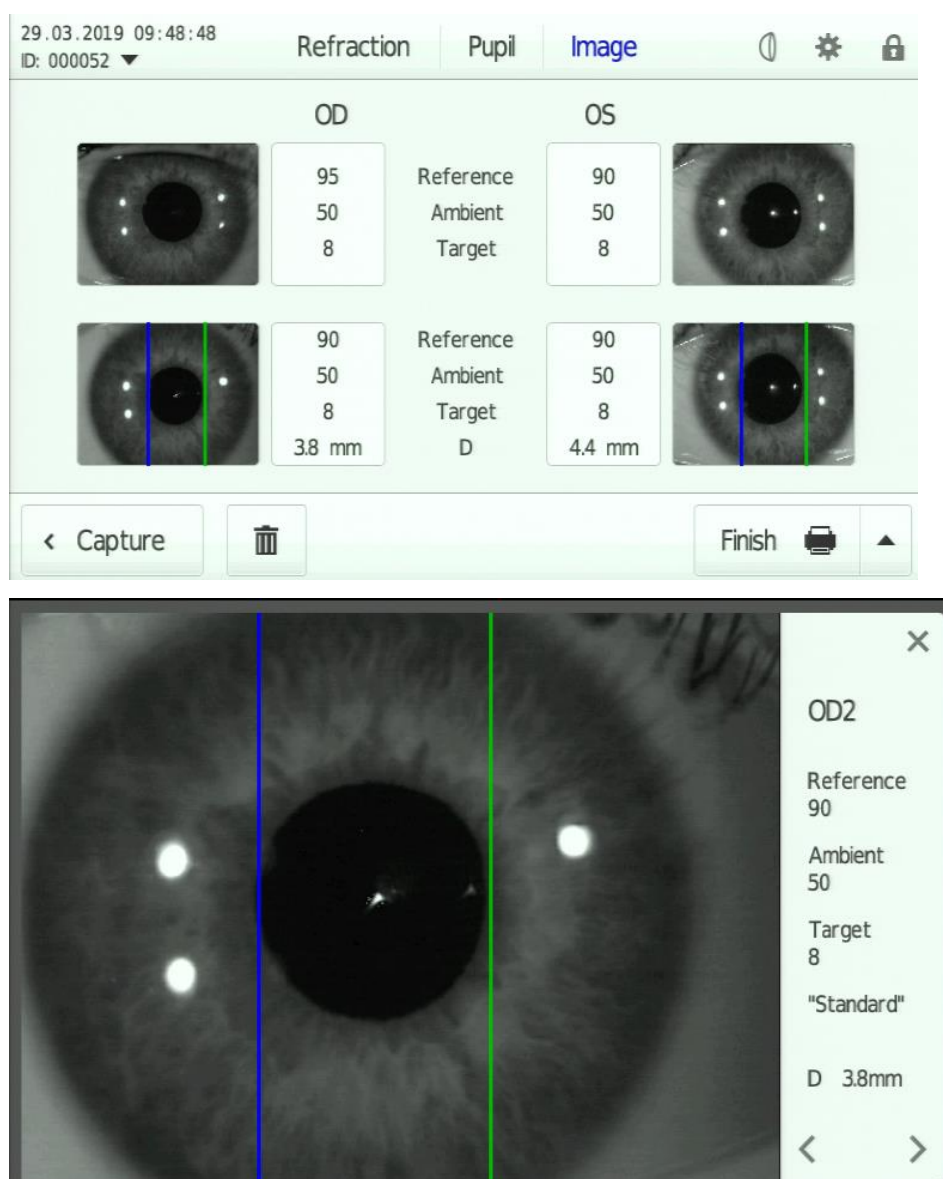

Fig. 43 Measurement of pupil diameter in the review screen for images (above) and full screen view (below)
- The image on which the measurement is based and the measurement lines are stored together with the measurement value. This can be displayed on the review screen for images (Fig. 43).
- When tapping on the displayed preview images a pop-up window will open to display the selected image in full screen mode (Fig. 43, below).